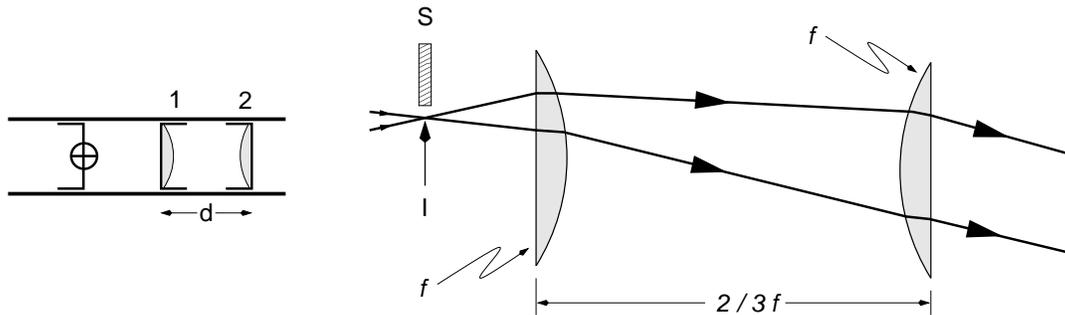

Figure 6: Construction of a Ramsden eyepiece.
- A. Ask the instructor for the holder containing a Ramsden eyepiece, a crosshair, a diaphragm, and an objective lens. See Fig. 6.